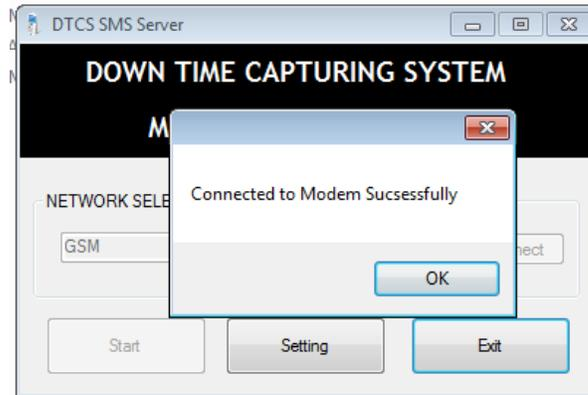

Figure 5.3
- Now, select the correct COM port relevant to the Modem. Click on “Connect” button. The “Connected to Modem Successfully” message will appear as in figure 5.3.